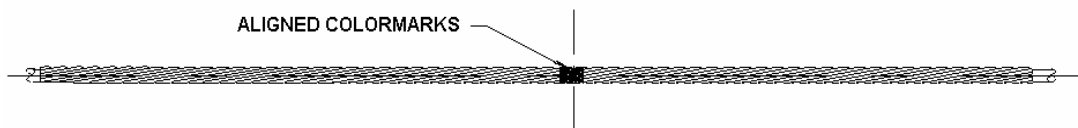

Figure 2.
3. Apply each remaining rod subset in the same manner. Use the colormark to align each subset with the applied subsets. Continue to wrap the rod subsets about the cable until the rod layer is completely applied. Make sure no rods are crossed. Rod subsets may be split into single rods for the last 1 or 2 pitch lengths in a case where snapping in a subset becomes difficult. If necessary, tap rods down with a rubber mallet to help rods lie flat. See Figure 2.